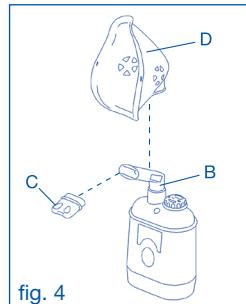

fig. 4
4. Sit comfortably, holding the nebulizer in your hands, place the mouth-piece (B) over your mouth or use the nasal prong (C) or mask (D) or (E) (fig. 4).